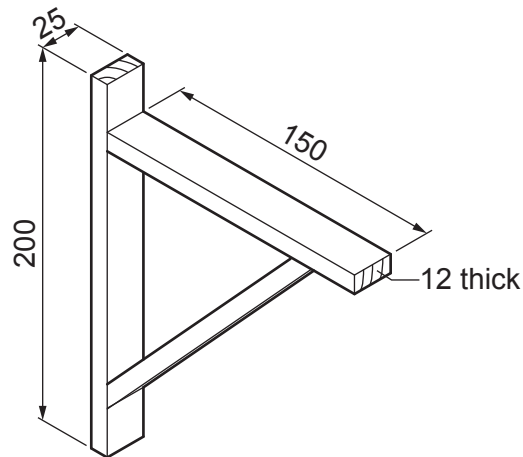

Fig. 13.6
- (g) Fig. 13.6 shows a different type of shelf bracket made from hardwood.